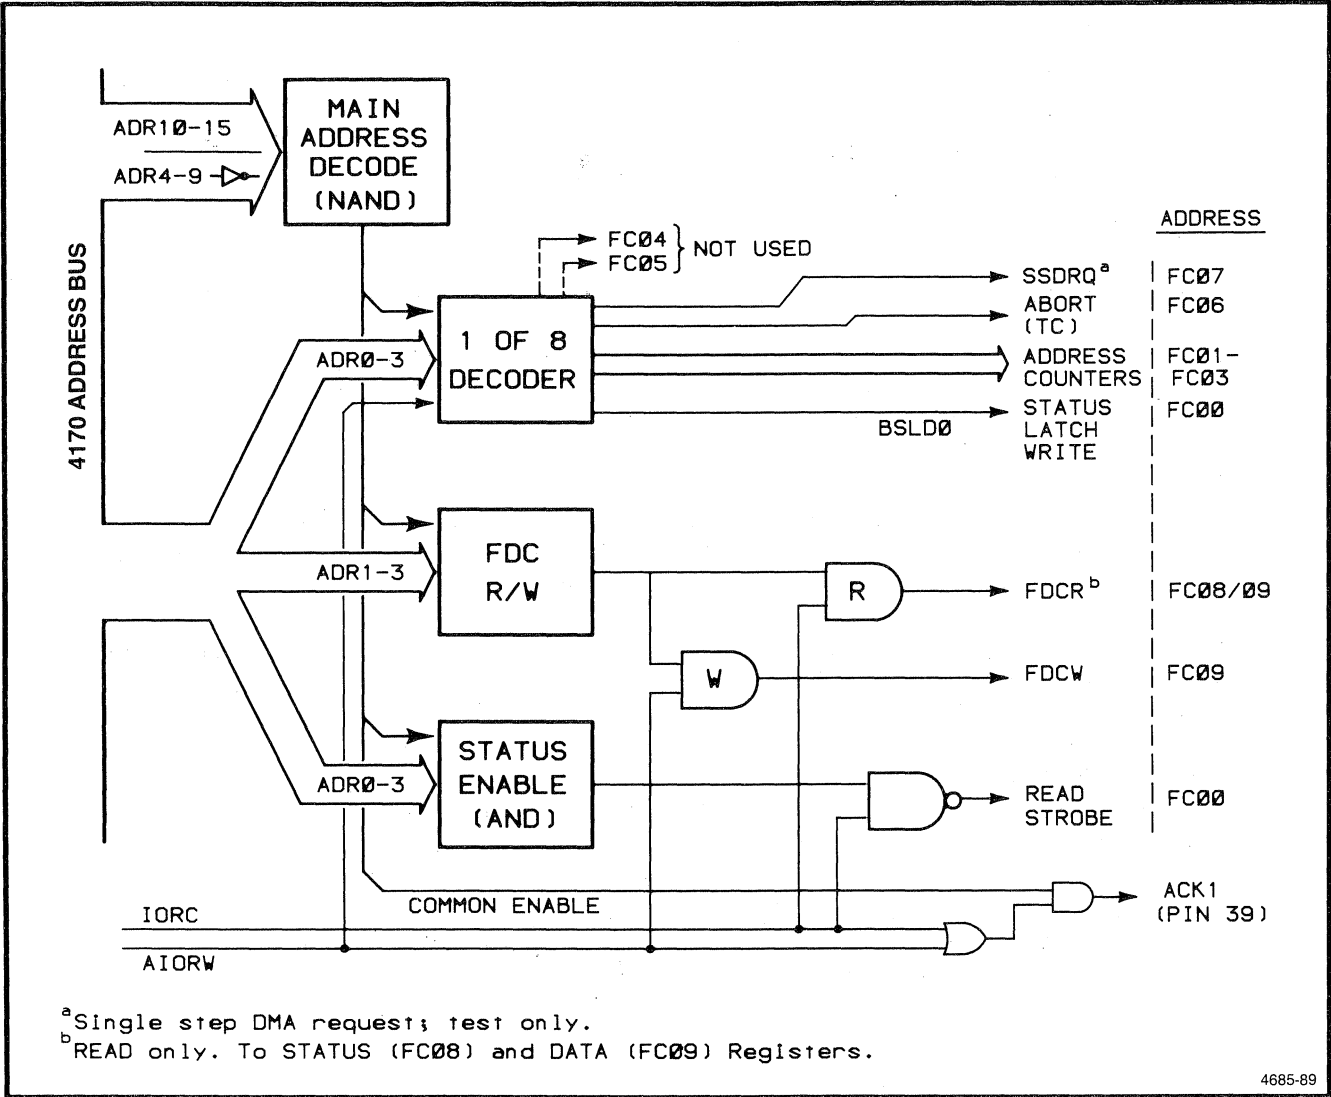

Figure 12-44. Address Decode Block Diagram.
Figure 12-44 shows the functional groupings of this logic. An address of FCOO (1) passes the NAND circuit and produces its COMMON ENABLE output. This line is used along with specific addresses to enable the following function gates.
(1) May be strapped to FC80, but this strap setting is not normally used.